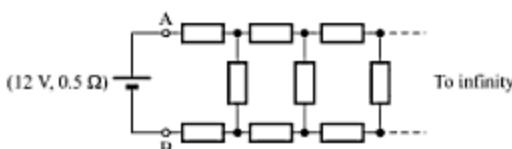

Fig. 2.39
13. Calculate the current drawn from a 12-V supply with internal resistance  $0.5 \Omega$  by the infinite ladder network, each resistance being 1 ohm, in Fig. 2.39.